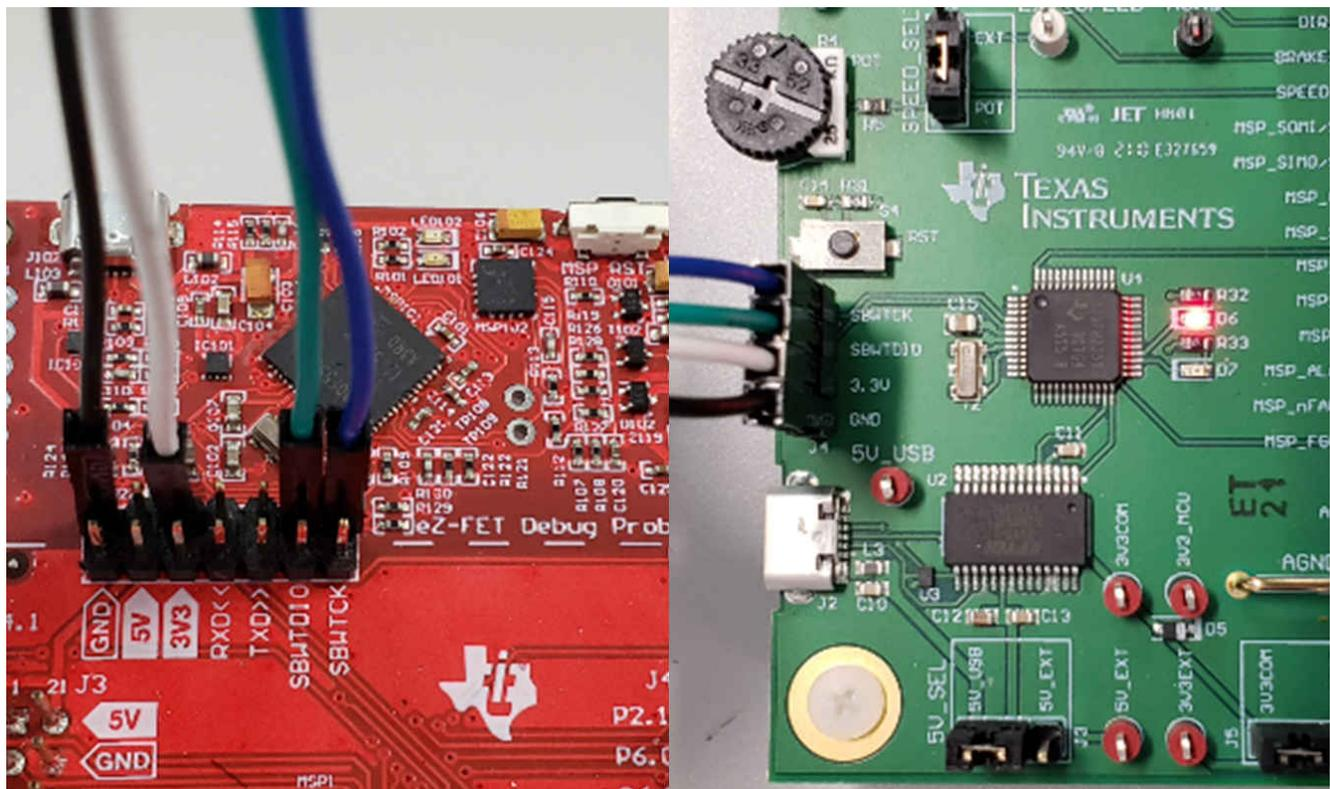

Figure 7-2. MSP430 LaunchPad eZ-FET Probe Connected to MCT8329EVM
2. Connect the top pins on the eZ-FET side of the LaunchPad of the GND, 3V3, SBWTCK, and SBWTDIO signals to their respective pins on J7 of the MCT8329EVM as shown in Table 7-1 and Figure 7-2.